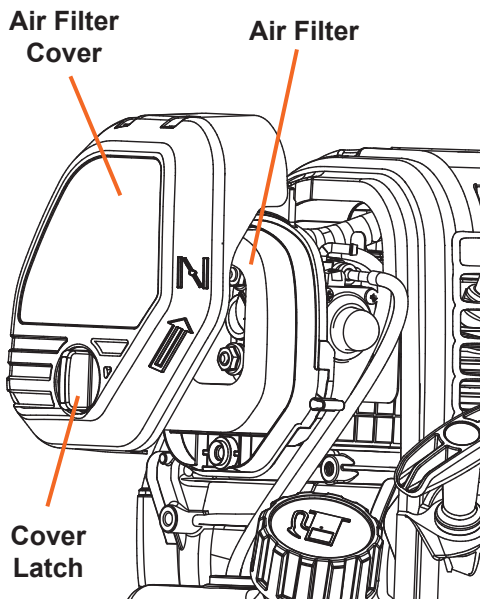

Figure 8
1. Loosen the air filter cover latch (see Figure 8).